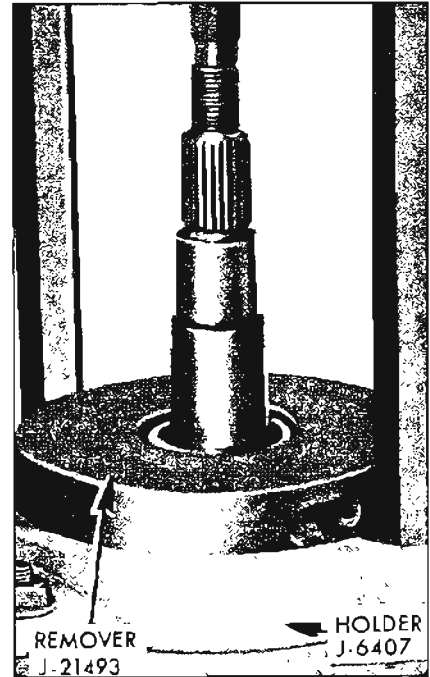

Figure 6-16—Removing Rear Pinion Bearing
1. If rear pinion bearing is to be replaced, remove rear pinion bearing from pinion shaft using Remover J-21493 with Holder J-6407. See Figure 6-16.